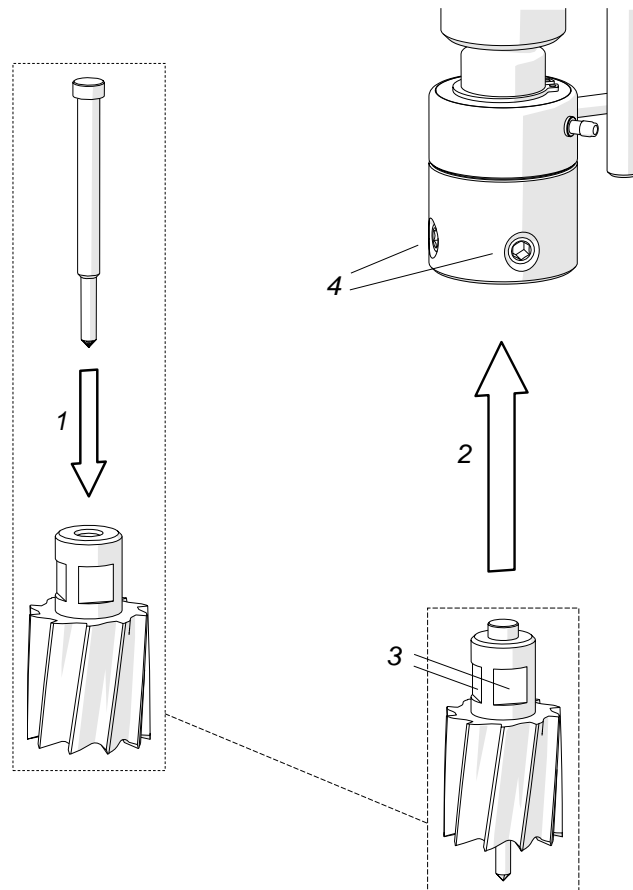

Fig. 4. Installing the annular cutter
Install the arbor as described before, wear protective gloves, and then insert the proper pilot pin into the annular cutter (1, Fig. 4). Use a clean and dry cloth to wipe the cutter. Next, place the cutter into the arbor (2) in such a way to align the flats 3 with the set screws 4, and then use the 5 mm hex wrench to tighten both set screws.